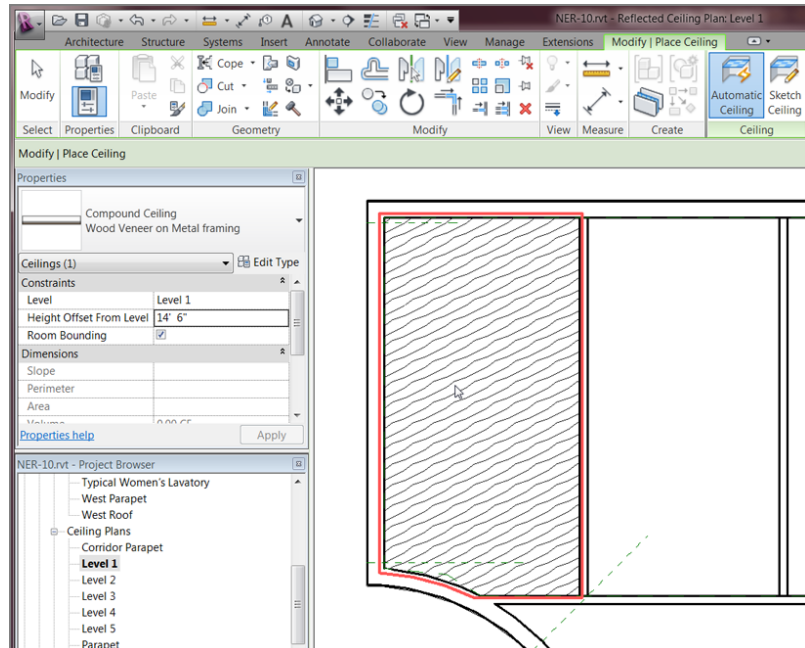

FIGURE 9.18: The cherry-veneered plywood ceiling
20. In the Properties dialog box, change Height Offset From Level to 14'-6" (4350mm), as shown in Figure 9.18.
21. Place the ceiling in the room shown in Figure 9.18.